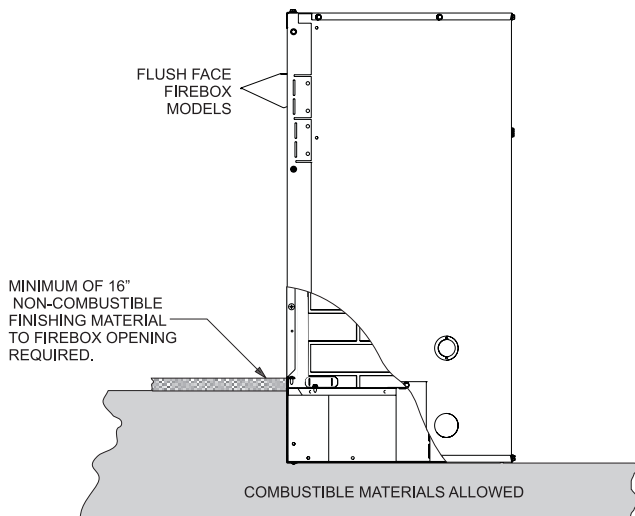
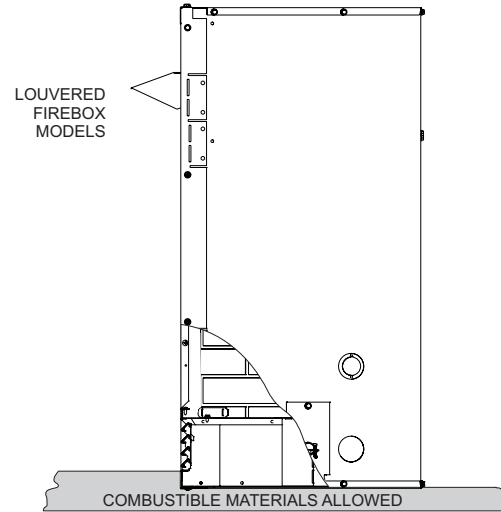

Figure 4
Figure 5
3. Recessed into the floor as illustrated by **Figure 4** (flush face), and **Figure 5** (louvered models).